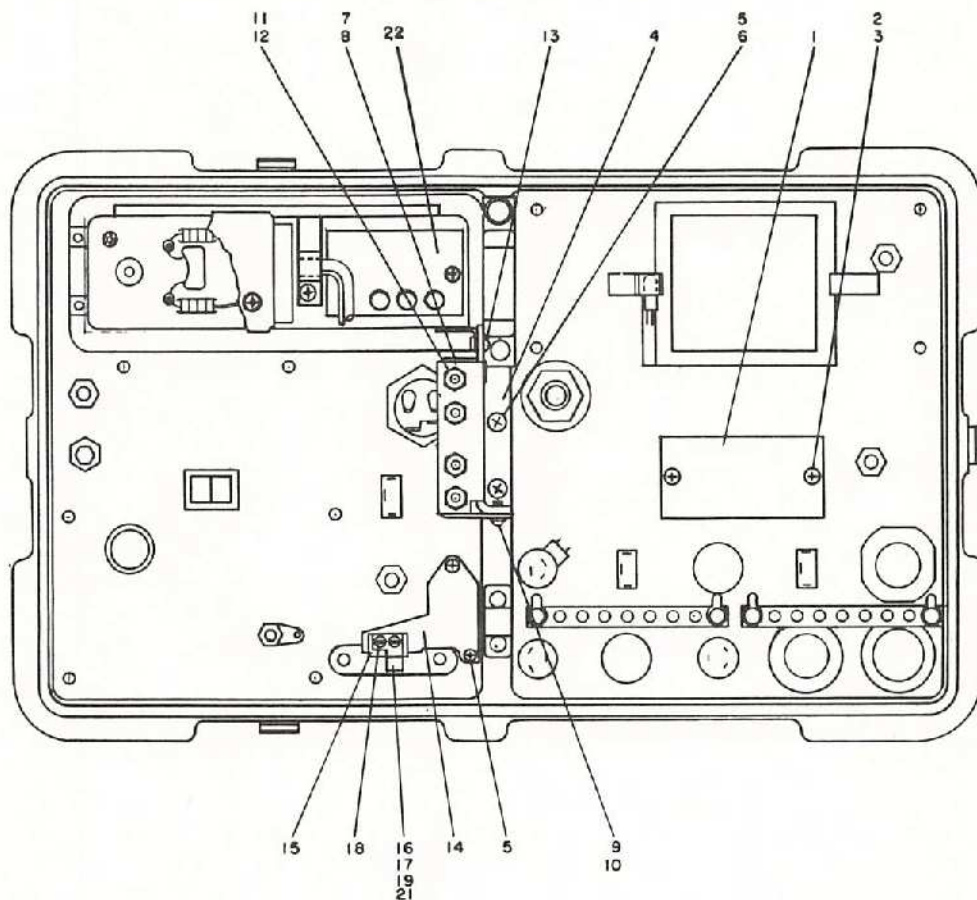

Figure 5-18. Back Panel Assembly
5.22 Relay Mounting Bracket 1A1A3 Parts Removal and Replacement (Refer to figure 5-18)
- (1) A pink 30 circle indicates that the dessicant will soon require replacement.
- (2) A pink 40 circle indicates that the dessicant requires replacement.
- (3) A pink 50 circle indicates that the dessicant indicator requires replacement.
- (4) Overlap of the circles indicates that the equipment requires examination for humidity damage.
c. Dessicant Indicator Removal (figure 5-18).
- (1) Remove screw and washers.
- (2) Remove indicator holder (20).
- (3) Remove indicator (22) from holder.